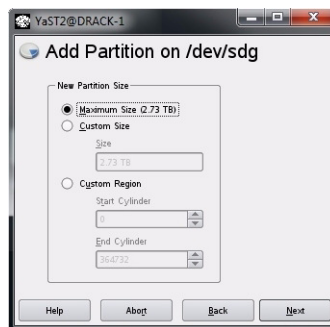

Figure 3-26 YaST2 – Select Partition Size
- Select the partition size (Figure 3-26) and click **Next**.